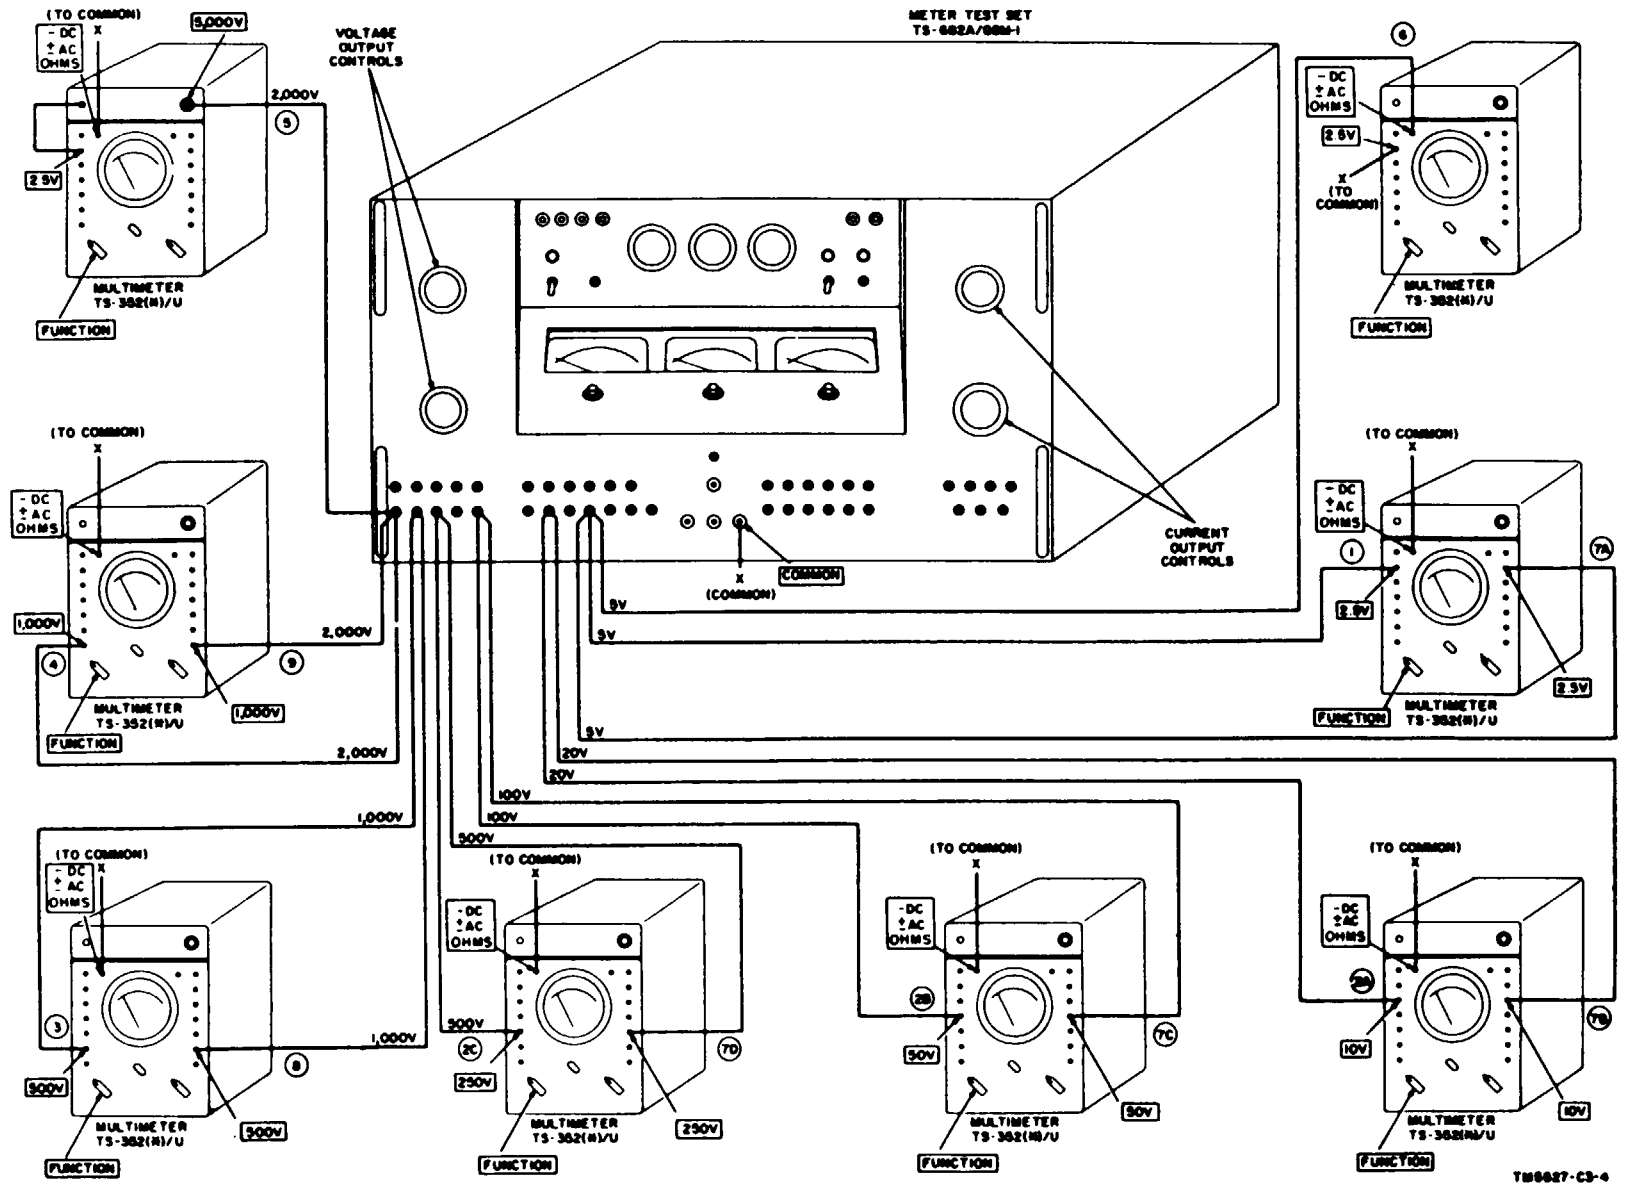

Figure 6-2. Dc voltage function test connection.
b. Test Connections and Conditions. Connect a test lead between the common terminal post on the meter test set (fig. 6-2) and the -DC \pm AC jack on the multimeter. Do not make any other connection until instructed to do so in the test procedure.